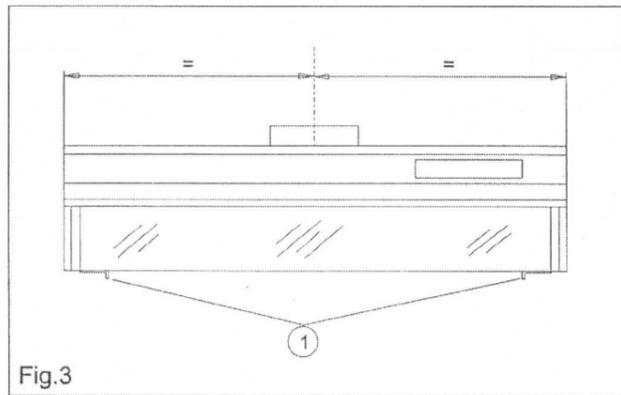

Fig.3
3. In order to open the grid press the clips (fig. 3/1) at the left and at the right one towards the other.